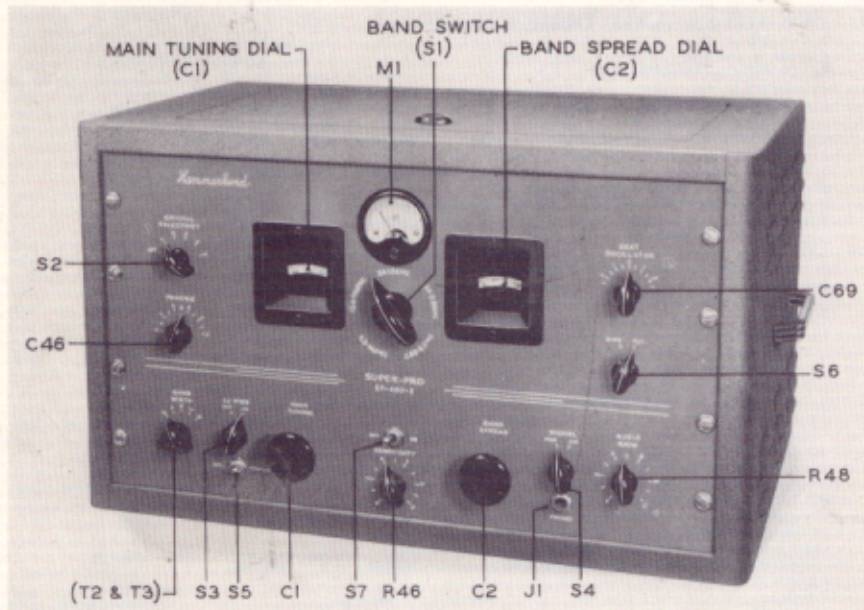
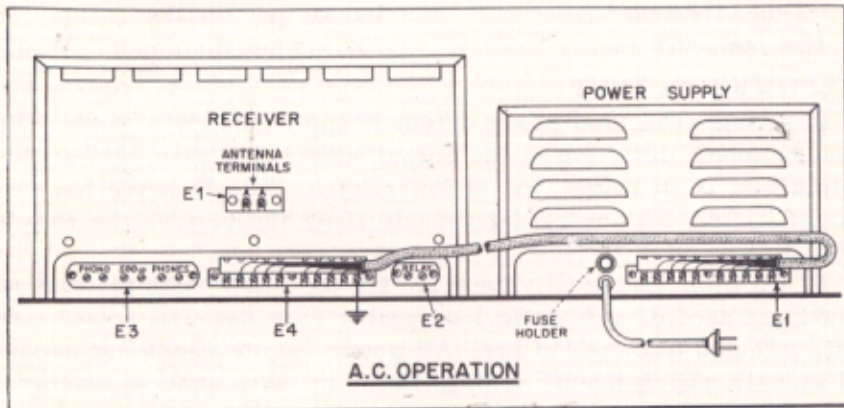

FIG. 2—Lay-out of controls referred to in text.
FIG. 3—Connections for power cable—A.C. operation.
panel (FIG. 2). Select the desired band by turning the BAND SWITCH knob right or left to the band indicated.
a. *Rating*—The total power output is approximately 8 watts. The total harmonic distortion of the output stage is less than 10% at this output and is, of course, less at lower levels. The Receiver has two output circuits with marked terminals along the rear of the chassis (Fig. 3).
(1) Remove the sheet-metal covers from terminal strip (E4, Fig. 3) on rear of Receiver and from terminal strip (E1, Fig. 3) on Power Supply. See that all ten screws on each strip are unscrewed at least three turns. Then attach one end of the connector cable to each terminal strip *exactly* as shown in Fig. 3 and tighten all screws securely. Make certain that each slotted spade lug on the cable strips makes contact with its respective screw terminal *only*, since a lug jammed between *two* screws could cause considerable trouble. Immediately
Connect a single-wire lead-in to the end of the antenna nearest the Receiver and try to have the lead-in wire leave the antenna approximately at right angles. Connect the lead-in to one of the "A" terminals (on terminal strip E1, FIG. 3) at the rear of the Receiver. Connect the other "A" terminal to a good ground, preferably not to the Receiver chassis. Run this ground lead to a water pipe or to a metal rod driven into the ground deep enough to reach moist earth. Keep the length of the ground lead as short as possible. Make the best possible electrical connections between the antenna and its lead-in and between the ground lead and "ground."
d. *Chassis Ground*: It is not usually necessary to ground the Receiver chassis, but this can be done by connecting the ground lead to the left-hand PHONO or to the left-hand PHONES terminal (located on terminal strip E3, FIG. 3). These two terminals are grounded to the inside of the chassis.
e. *Earphones*: Plug a headset into the PHONES jack (J1, FIG. 2), or connect it to screw terminals marked PHONES on rear of chassis. No matching transformer is necessary (see PAR. 20b).
f. *Loudspeaker*: The permanent magnet dynamic loudspeaker supplied with the Receiver has a transformer mounted on its housing. This transformer matches the voice coil of the loudspeaker to the 500-ohm output terminals (on terminal strip E3, FIG. 3) located at the rear of the chassis (marked 500 ohms). For loudspeaker operation,
h. *Line Switch:* Turn the OFF-ON switch (S7, FIG. 2) on the Receiver front panel to OFF and plug the power cord of the Power Supply into the a-c powerline.
a. *Radiophone Reception*: Set the front panel controls (FIG. 2) as follows:
(1) Throw OFF-ON power switch in center of panel to ON. This puts Receiver in operation.
(2) Adjust band switch (S1, FIG. 2) to a band which is likely to be very active. This will facilitate the process of getting familiar with the various adjustments. If interference is not serious, BAND WIDTH control can be adjusted to a wider band width (higher number), depending upon the degree of fidelity desired. In general, adjust this control to band width giving best tone with least interference.
(3) Do all tuning, with or without the meter with BAND WIDTH control set at 3. Other settings give wider bands, making exact tuning difficult. Make band width adjustments *after* signal is tuned properly.
(4) LIMITER-OFF-ON control turns noise limiter on and off. The noise limiter will be most valuable on the higher frequencies, where interference from automobile ignition system is most bothersome.
(1) On strong signals, do not turn SENSITIVITY control all the way on, because it will cause overloading. If the AUDIO GAIN control is set at about 7, it is possible to regulate volume by using only the sensitivity control.
(2) To turn on the beat oscillator, set SIGNAL-MOD-CW switch at CW. The BEAT OSCILLATOR control varies the pitch of the beat between oscillator and incoming signal. Use beat oscillator for code reception and for locating weak modulated signals.
(3) Fading signals can be improved by returning AVC-MANUAL switch to AVC.
d. *Receiver Silencing:* Receiver can be silenced by flipping the SEND-REC switch (S6, FIG. 2) to SEND. This operation opens the "B" supply to the R-F and 1st detector tubes (V1, V2 and V3). The Receiver then remains ready for instant service during transmission periods. Note also that instead of using the SEND-REC switch, a relay may be connected to the RELAY terminals (E2, FIG. 3) at rear of Receiver and silencing controlled by relay action, actuated, for example, by the associated transmitter. When using a relay for silencing, flip SEND-REC switch to SEND (open) and *leave* it there. While the
e. Phono Operation: Leads from a phonograph pickup may be connected to the PHONO terminals (on terminal strip E3, FIG. 3) at the rear of the Receiver. (Note that the left-hand terminal of this pair is grounded to chassis.) Use the SEND-REC switch (S6) as a “phono-radio” switch by flipping it to the SEND position, thus eliminating radio interference and making it unnecessary to hunt for a “dead spot” on the tuning dial.